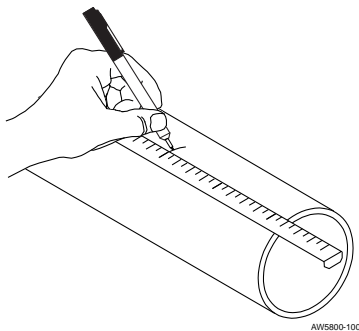

Figure 24
- E. Re-mark the center of the trunnion tube. See Figure 24.